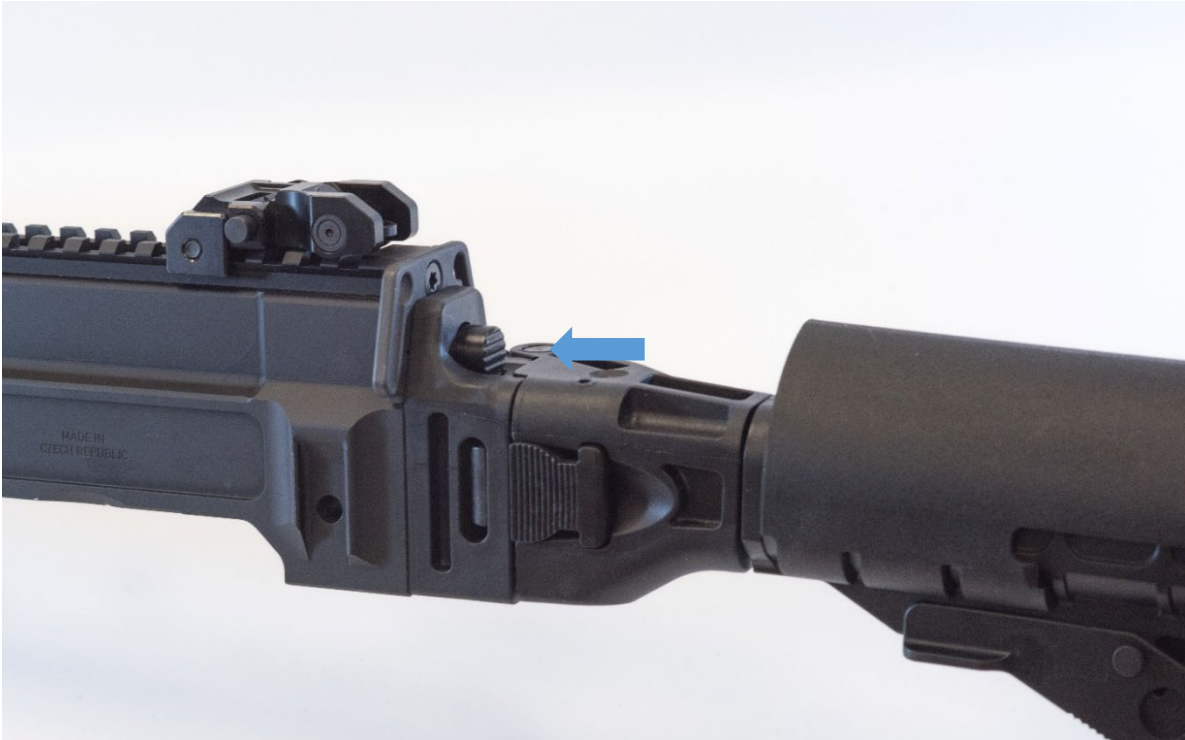
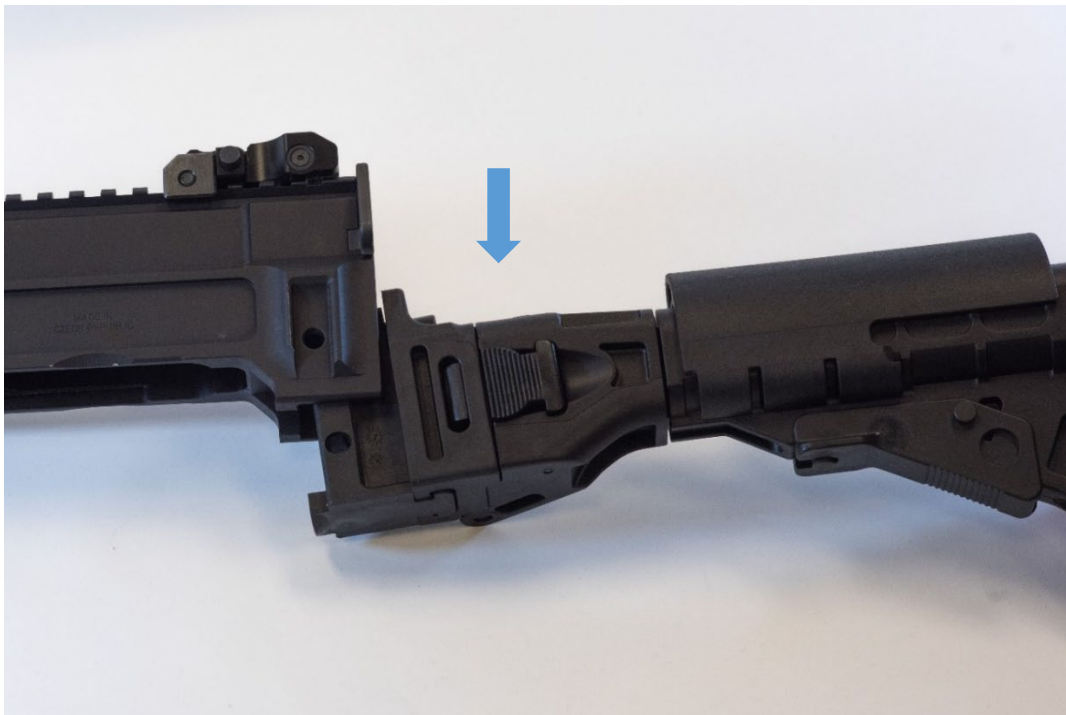

Figure 5: Disassembly Button
Figure 6: Stock Removal
- Fully press the stock disassembly button (Figure 5) and remove the whole stock by sliding it downwards (Figure 6).